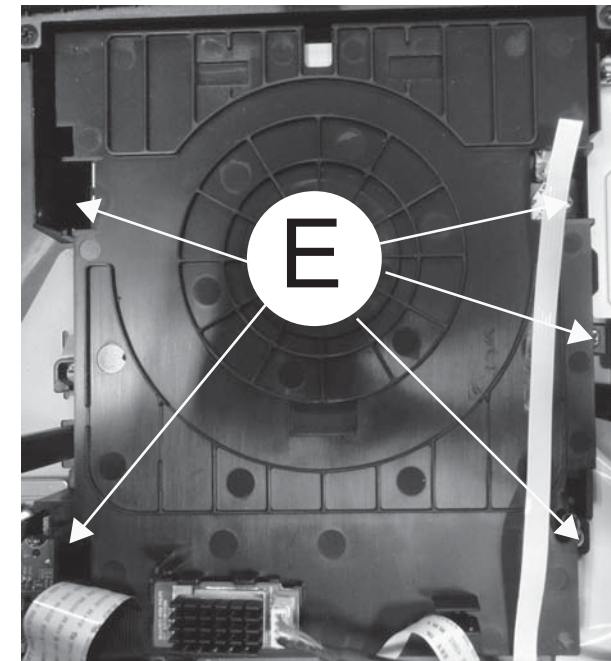

Figure 5
- 1) Loosen 5 screws "E" at the DVD Module as shown in figure 5.